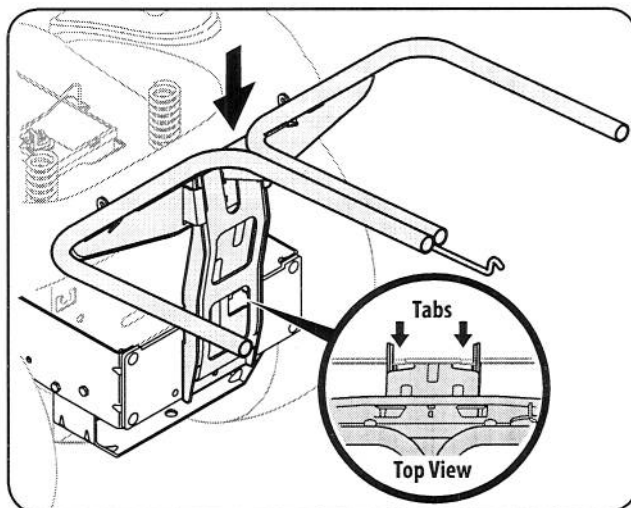

Figure 4-9
5. Install the bag support assembly onto the mounting assembly on the tractor by hooking it over the cross mounting bracket outside of the two tabs. See Fig. 4-9.